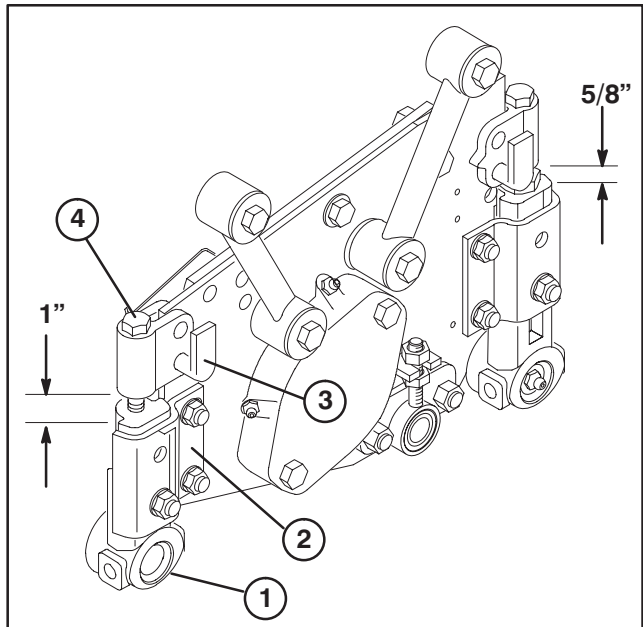

Figure 5
SET HEIGHT OF CUT AND LEVEL REAR ROLLER (Fig. 5)
2. Adjust support capscrew to achieve $1'' \pm 1/16$ dimension between Height-of-Cut support and front roller bracket (2 places) (Fig. .5).
3. Adjust support capscrew to achieve $5/8'' \pm 1/16$ dimension between Height-of-Cut support and rear roller bracket (2 places) (Fig. .5).